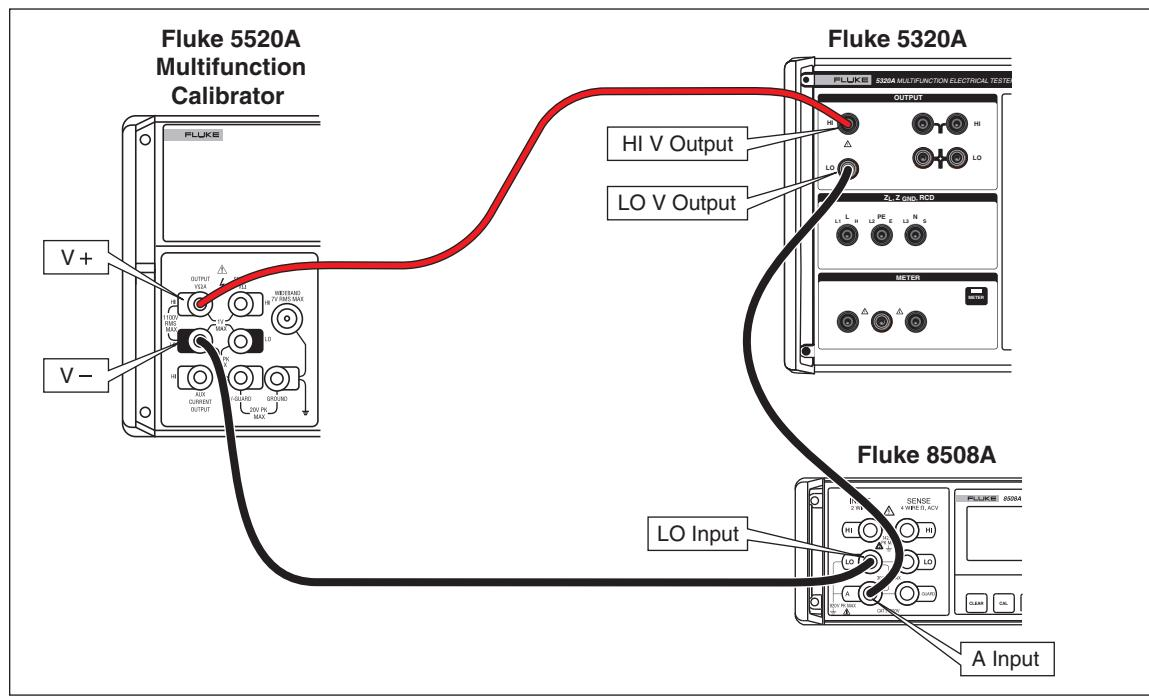

Figure 3-31. Multimeter Current Verification Setup
1. Press **mA~** to select the passive leakage current function on the Calibrator. Connect the multifunction calibrator's output (Fluke 5520A in this example) to the HI and LO V~ terminals of the Calibrator as shown in Figure 3-31. On the 5520A calibrator, set its output to the nominal voltage of the power line voltage the Calibrator is powered from (115 V ac or 230 V ac), and set the frequency to 55 Hz.
2. Connect the standard multimeter's current terminals according to the connections shown in Figure 3-31. Select the ACI function with auto range on the standard multimeter (for example, Fluke 8508A).